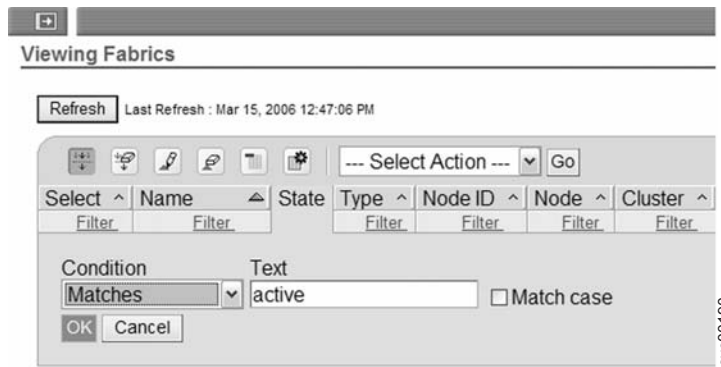

Figure 7. Displaying all active devices
3. From the **Condition** menu, select **Matches** and click **OK**. See Figure 7 on page 18.